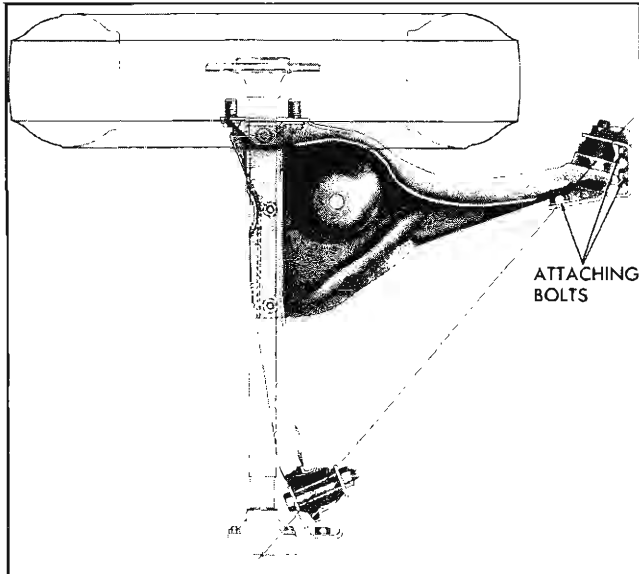

Fig. 3-13 Bracket Attaching Bolt Location
If drive-on type of equipment is used, reverse the vehicle and back it into position. Toe-in (overall) will be read as toe-out when the vehicle is backwards, because readings will be taken from the rear of the tire rather than the front. A trammel or side wall of tire (page 3-8) may also be used in a procedure similar to that used on the front wheels. Rear wheel toe is adjusted by adding or removing shims at the control arm to body side rail front attachment point (Fig. 3-13).
2. Loosen three control arm bracket to body attachment bolts (Fig. 3-13).
3. Adjust toe to  $\frac{1}{16}$ " out to  $\frac{3}{16}$ " in by adding or removing shims at control arm bracket to body bolts, at front attachment points (Fig. 3-13).
**CAUTION:** Do not add or remove shims at control arm bracket upper bolt (Fig. 3-13). Shims are sometimes located here for manufacturing purposes only and should not be changed.